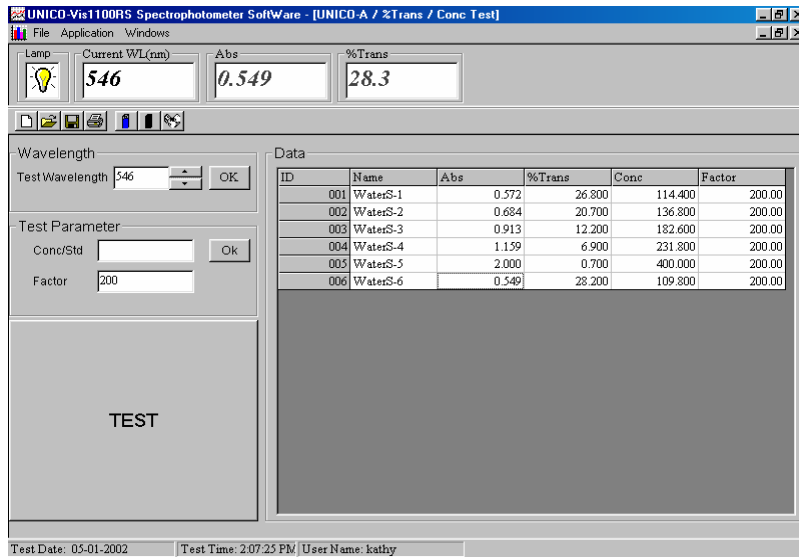

Figure-28 Sample Test Results of **Concentration/Standard Mode**
Step 5B: For each sample, be sure to place the sample in Sample Compartment and close the lid. Click the **TEST** Button to record Results. The **Absorbance**, **Transmittance** and **Concentration** will be displayed in the **Data Table** (Figure-28).